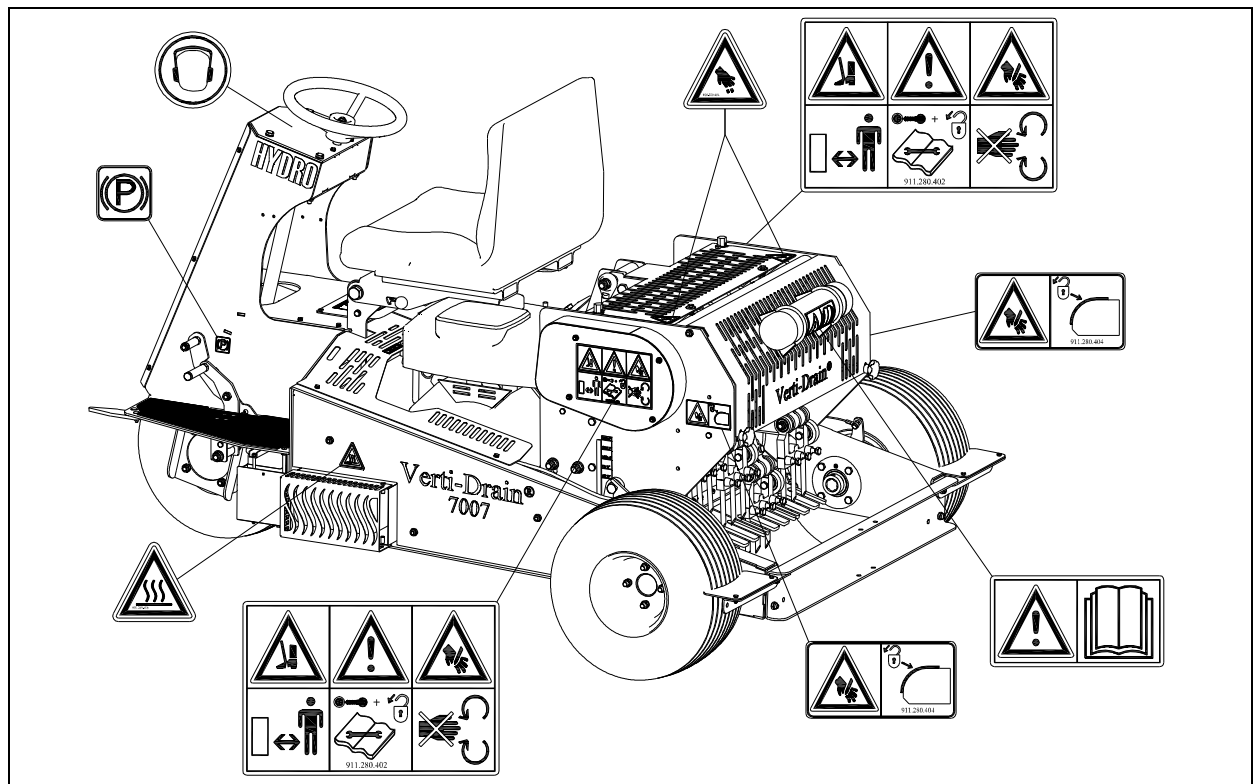

Fig. 8
(7) Location of safety stickers. (Fig. 8)